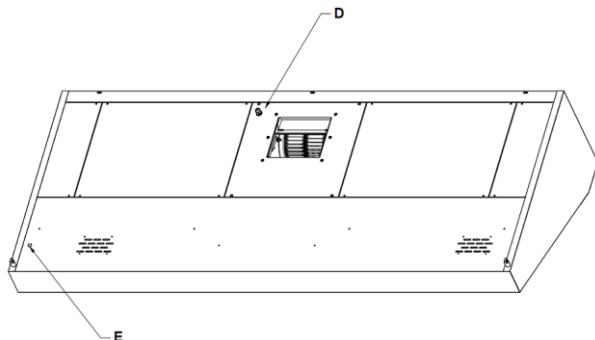

Fig. 7
1. Pay attention to wiring outlets for connection cables (Fig. 7).
2. Connect the motor wire (D) and LED lighting wire (E) to a suitable fan speed regulator.